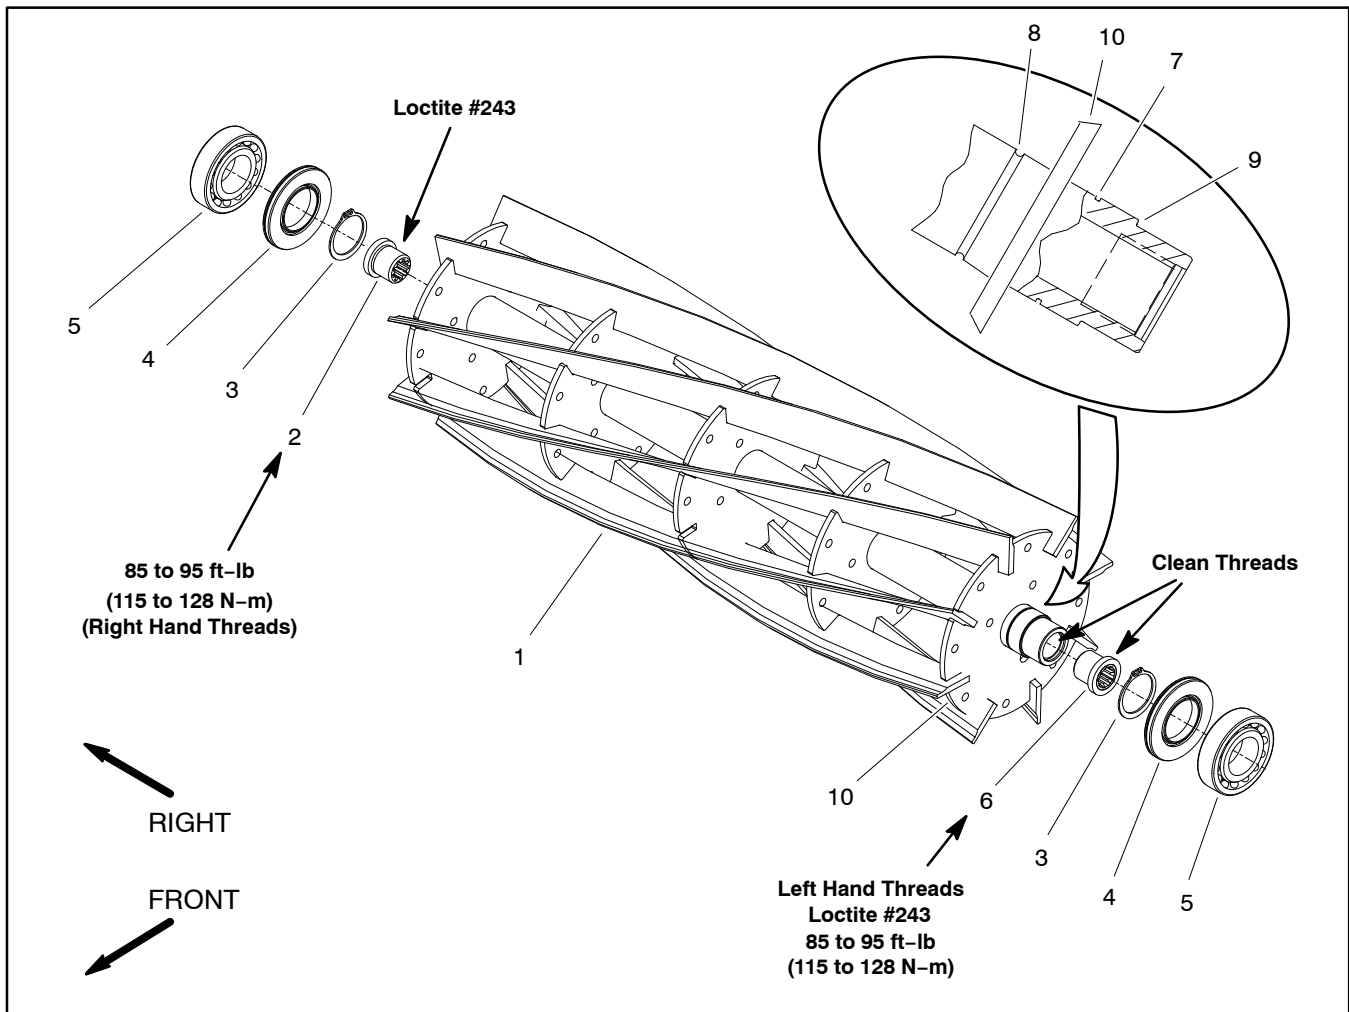

Figure 35
Inspection of Cutting Reel (Fig. 35)
A. The threaded inserts are installed with thread locking compound (Loctite #243 or equivalent). One insert has LH threads and the other RH threads. The insert with LH threads has an identification groove on the flange face. A groove on the reel shaft identifies the reel end that has LH threads (see illustration in Fig. 35).
Assembly of Cutting Reel (Fig. 35)